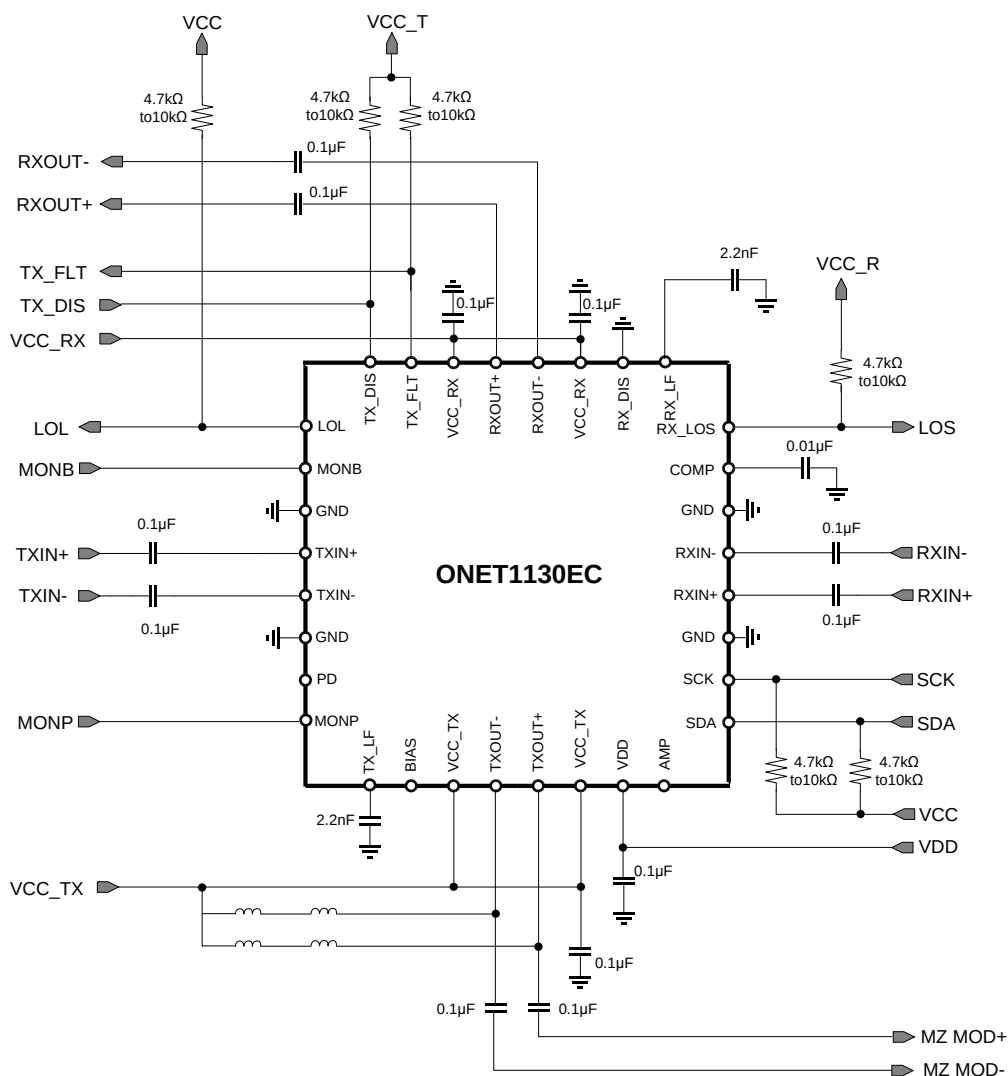
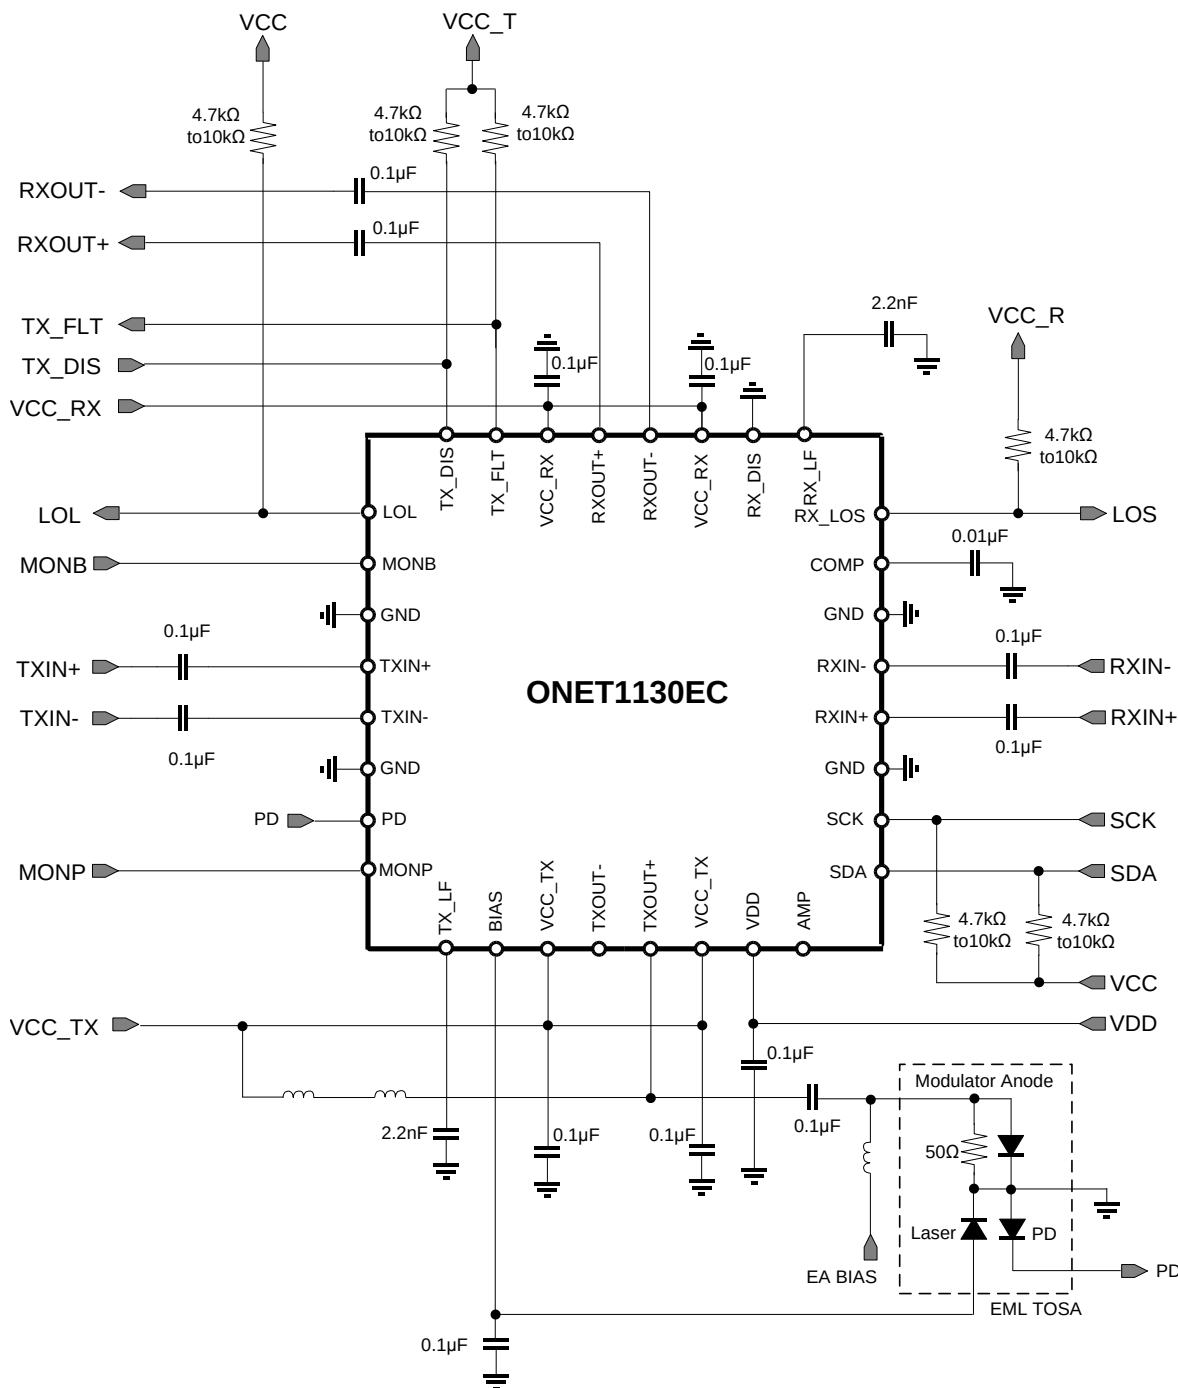

图 68. Typical Application Circuit in Differential Mode
图 70. Typical Application Circuit in Single-Ended Mode with an EML and the PD Monitor Cathode Available
The ONET1130EC is designed to be used in conjunction with a Transmitter Optical Sub-Assembly (TOSA) and a Receiver Optical Sub-Assembly (ROSA). The ONET1130EC, TOSA, ROSA, microcontroller and power management circuitry will typically be used in an XFP or SFP+ 10 Gbps optical transceiver. 图 68 shows the ONET1130EC in differential mode of operation modulating a differentially driven Mach Zehnder (MZ) modulator TOSA and 图 70 and 图 71 show the device in single-ended output mode with an Electroabsorptive Modulated Laser (EML) TOSA. 图 70 has the photodiode cathode available and 图 71 has the photodiode anode available.